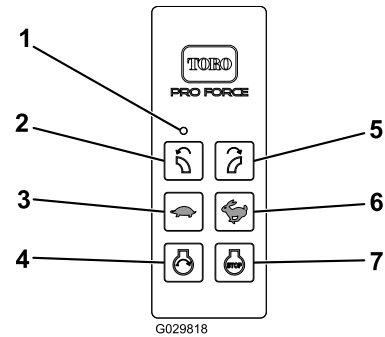

Figure 9
The LED light indicates communication between the handheld remote communication and the wireless-control module (Figure 9).
Press the ENGINE-STOP button to shut off the engine (Figure 9).
After preparing the machine for remote-control starting, press the ENGINE-START button to start the engine (Figure 9). Refer to Running the Engine \(page 17\) for the starting sequence.
Press the ROTATE NOZZLE LEFT button or the ROTATE NOZZLE RIGHT button to rotate the blower nozzle to the desired direction (Figure 9).
- Press the INCREASE ENGINE SPEED button (rabbit icon) to increase the speed of the engine (Figure 9).